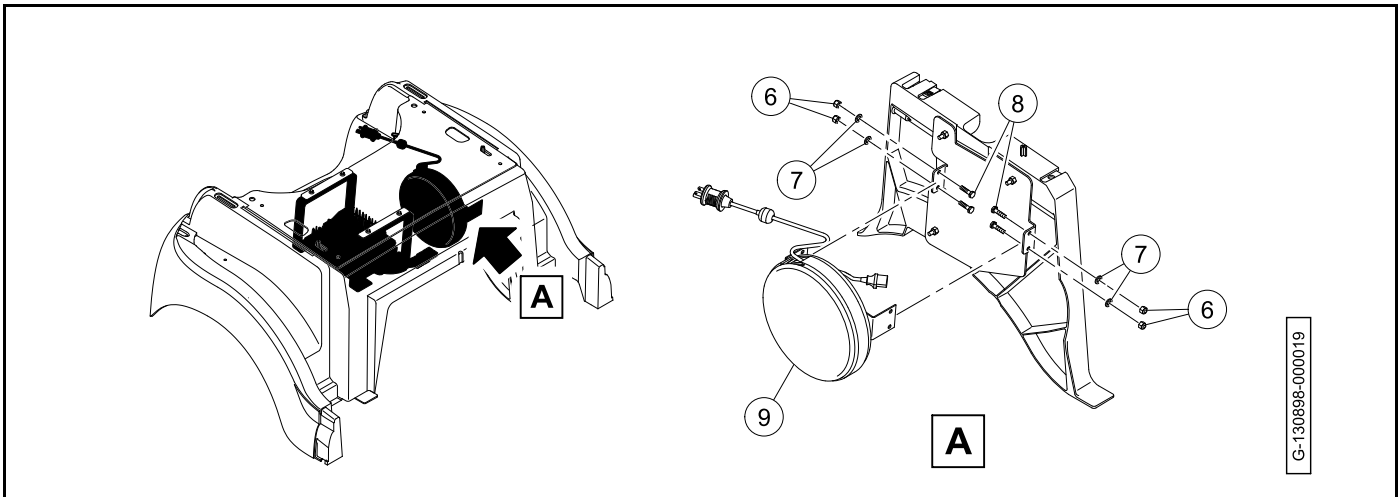

Figure 15-27 AC Cord Reel Removal
6. Remove the cord housing (3).
7. Remove the AC cord (4) from the cord housing.
8. Remove the backing plate (5).
9. Remove the nuts (6), washers (7), and bolts (8) (Figure 15-27, Page 15-40).